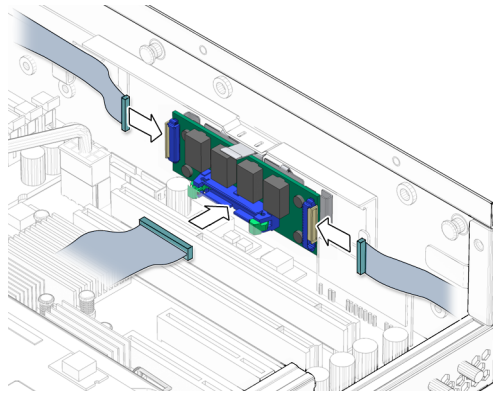

FIGURE 3-81 Connecting the Cables to the Alarm Board
4. Reconnect all three cables to the alarm board at their connectors (FIGURE 3-81).